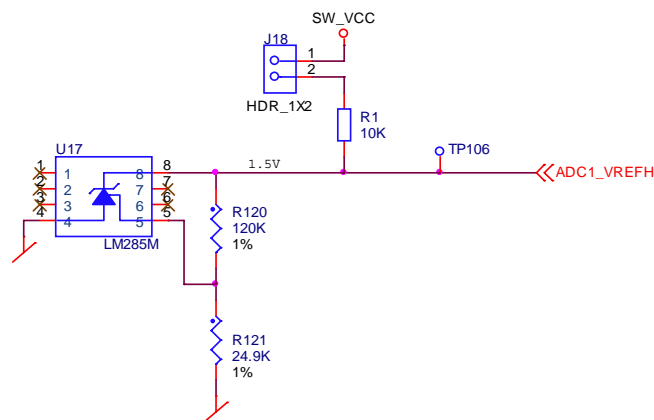

Figure 3-12. ADC Voltage 1.5 VDC Voltage Reference
- ADC voltage reference current - reference Figure 3-12. Voltage reference U17 is enabled via J18; current can be measured through this jumper.
- A fixed voltage reference for ADC1\_VREFH is provided (see Figure 3-12).